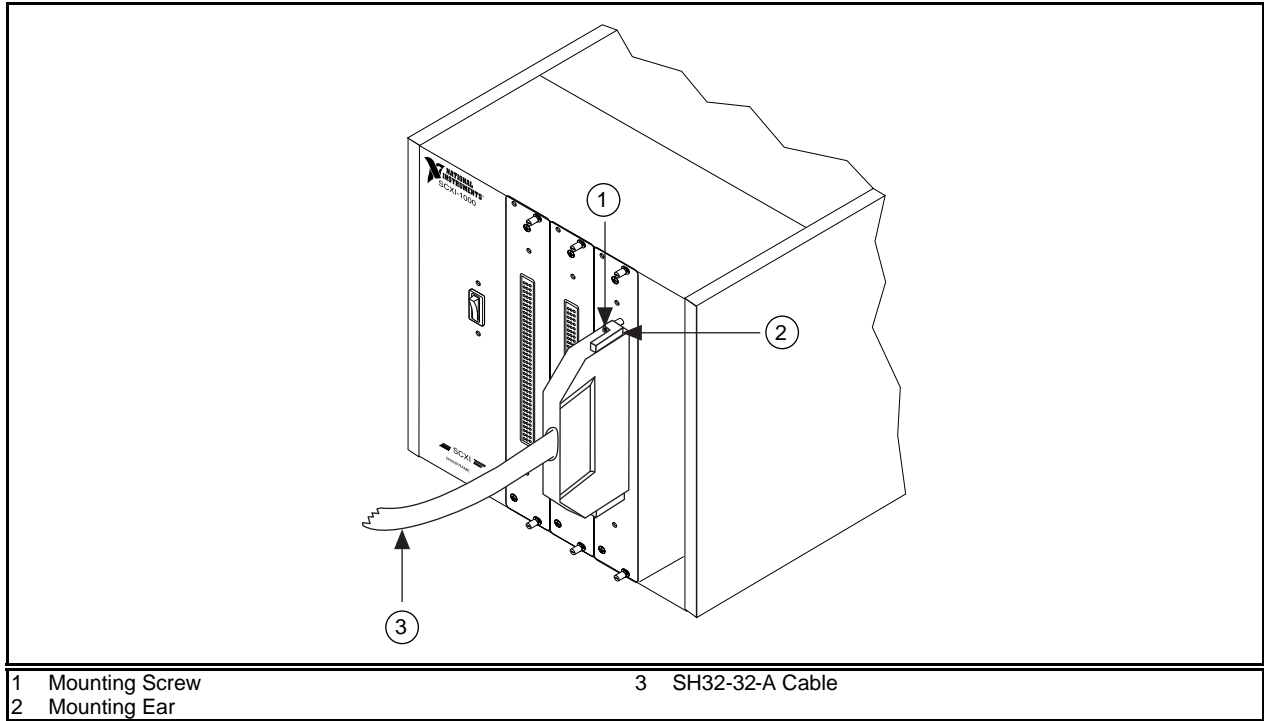

Figure 3. Connecting the SH32-32-A Cable to the SCXI Module
11. Verify that the four backshell mounting ears are in the position shown in Figure 3. If not, remove the backshell mounting ears and install them in the position shown.